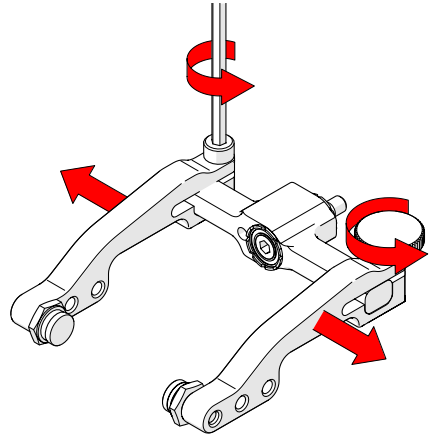

Fig. 147 - Remove arms
2. Loosen the probe holder arm adjustment knob and arm clamp screw. Slide the arms from the yoke (*Fig. 147*).